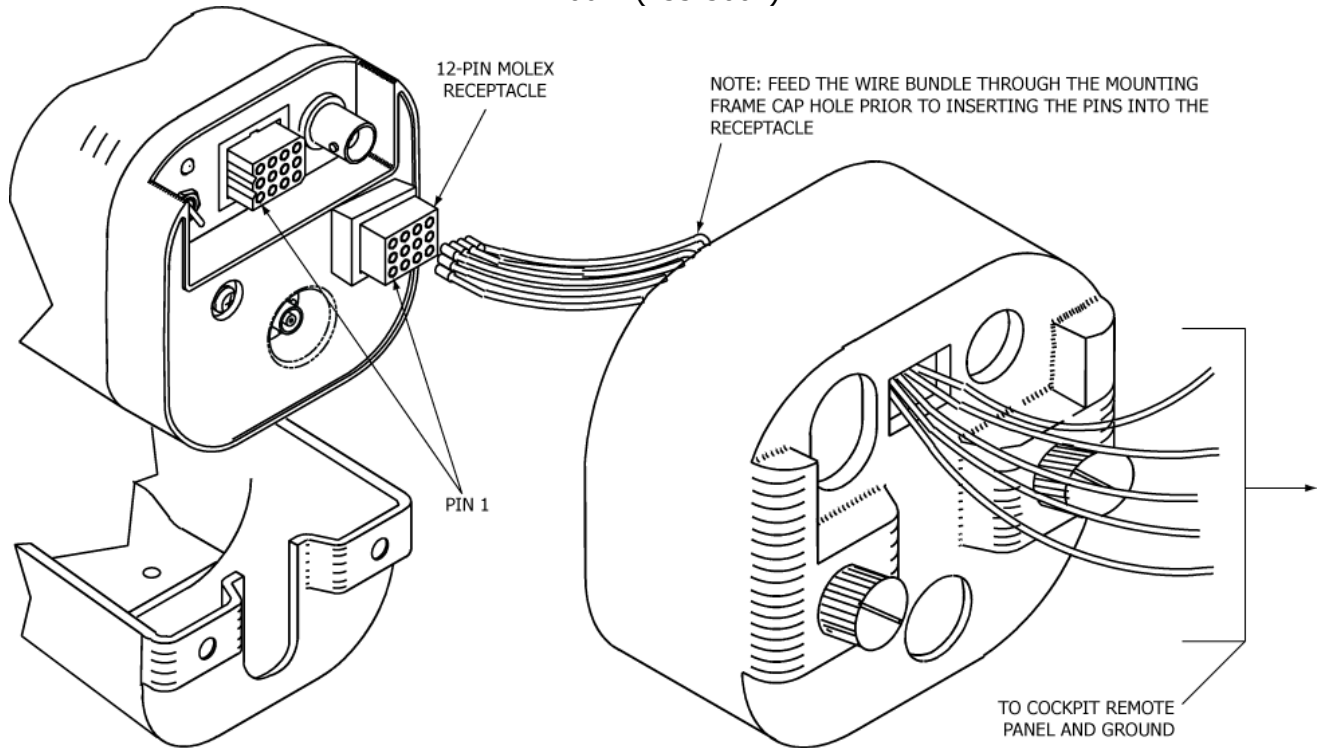

Figure 21 Remote Switch Panel Harness Wiring at ELT End
- 2) Feed the harness wires on the ELT end through the mounting frame cap assembly (452-5052). See Figure 21 Remote Switch Panel Harness Wiring at ELT End on page 57.